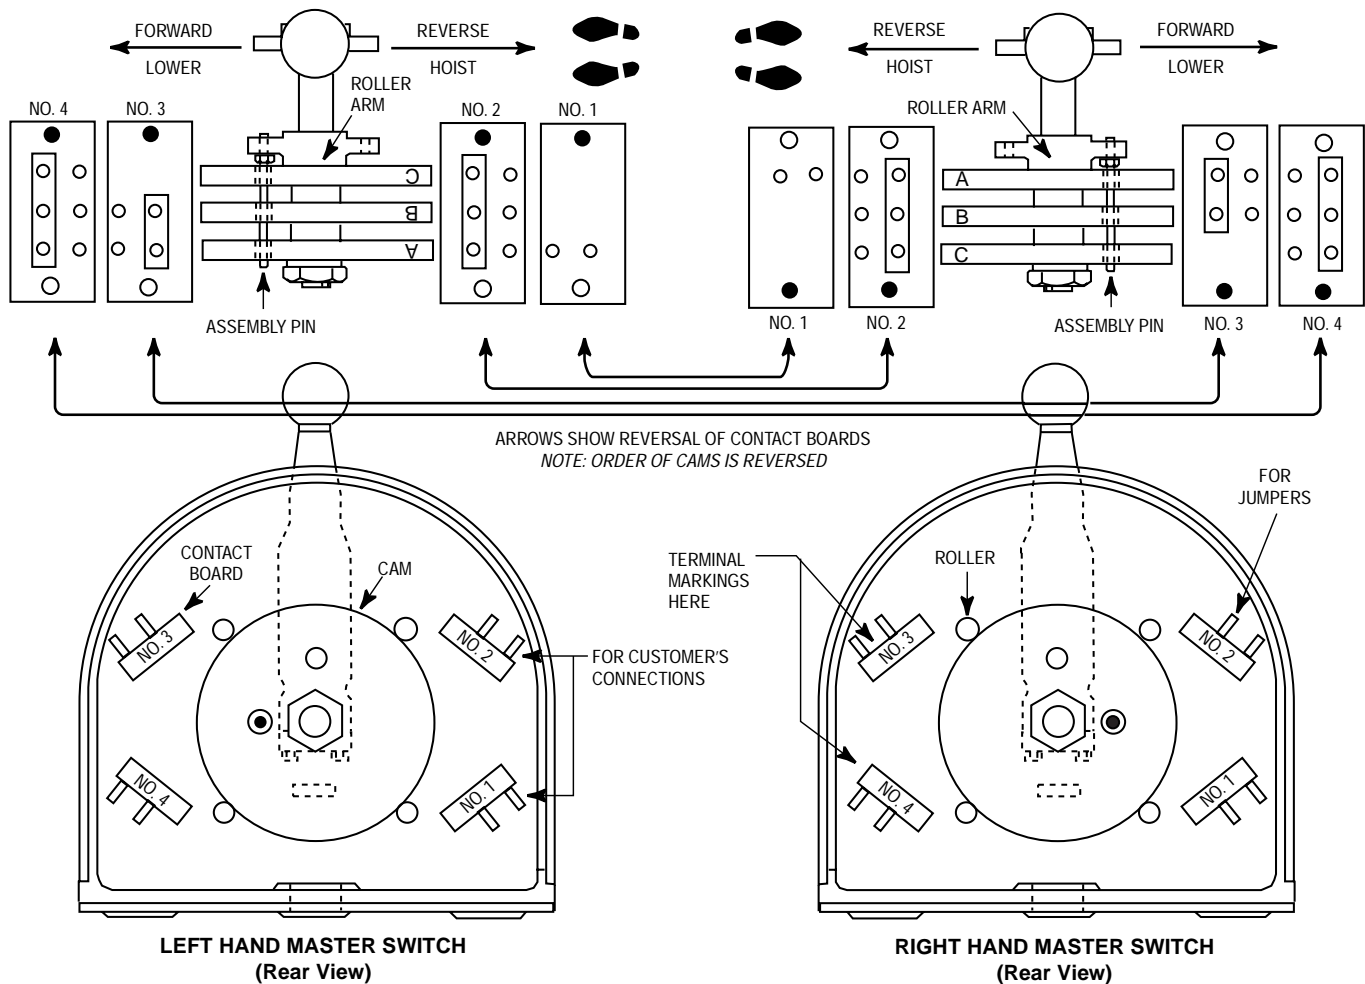

Figure 2: Changing Masters for Opposite Hand Operation
To change the hand operation (refer to Figure 2):
1. Mark all of the lead wires before disconnecting, then number each contact board and mark each cam as shown in Figure 2.